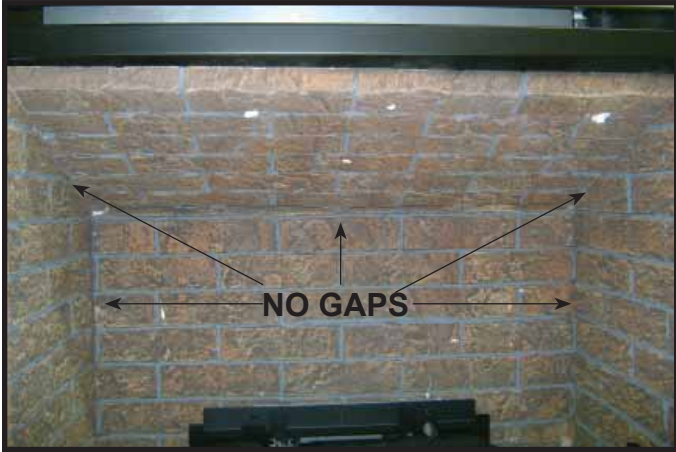

Figure 4.
6. Installation is complete when top refractory panel is set securely in place. Top refractory panel may need to be pulled down to fit correctly. Chamfers should properly fit together and gaps should be minimized with correct installation. See Figure 4.
CAUTION: Logs are fragile, handle with care. **Log #1 (2166-721):** Locate log placement tabs on the pilot cover. Bend tabs upward as shown in Figure 3. Tabs should be in a vertical orientation. A pliers may need to be used. Locate the log placements slots on the bottom of Log #1. See Figure 4. Mate the slots located on the bottom of Log #1 with the placement log tabs on the pilot cover. Log #1 is properly installed when it sits squarely and completely on pilot cover with tabs engaged. See Figure 5.